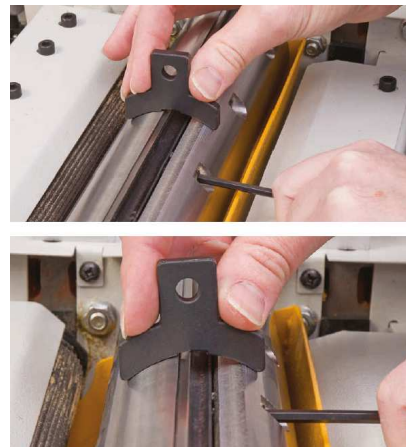

Fig 22
Holding the blade and setting tool (L) in position, tighten two cap head screws to provide a firm clamp on the blade. Keeping the setting tool held firmly in place tighten the remaining cap head screws, see Fig 22.